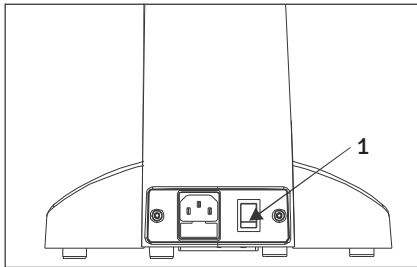

Fig. 19
1. Flip the main switch to “I” (ON) as shown in figure 19.